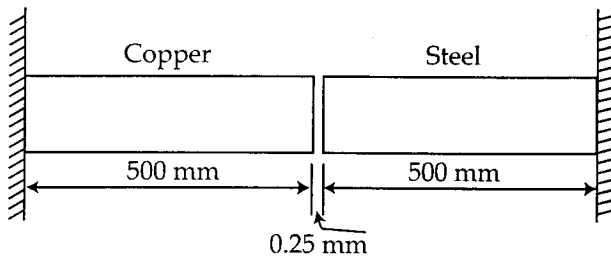

Fig. 2
3. In Fig. 2, the bar on the left is of copper and that on the right is of steel. Diameter of each bar is 60 mm. The gap between the bars is 0.25 mm. 14